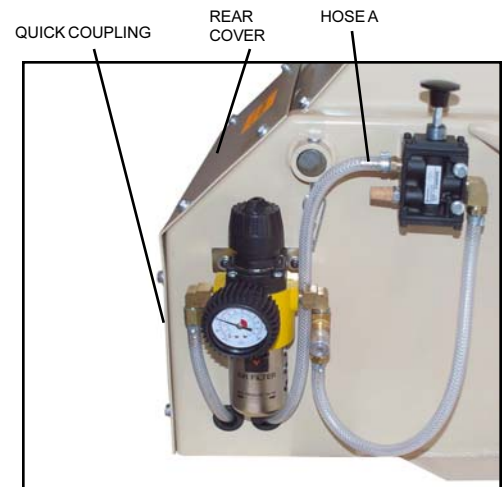

Figure 1
- 1) Disconnect the air supply at the quick coupler (**see Figure 1**). **NOTE: MAKE SURE THE UNIT IS IN THE DOWN POSITION BEFORE DOING THIS!!**